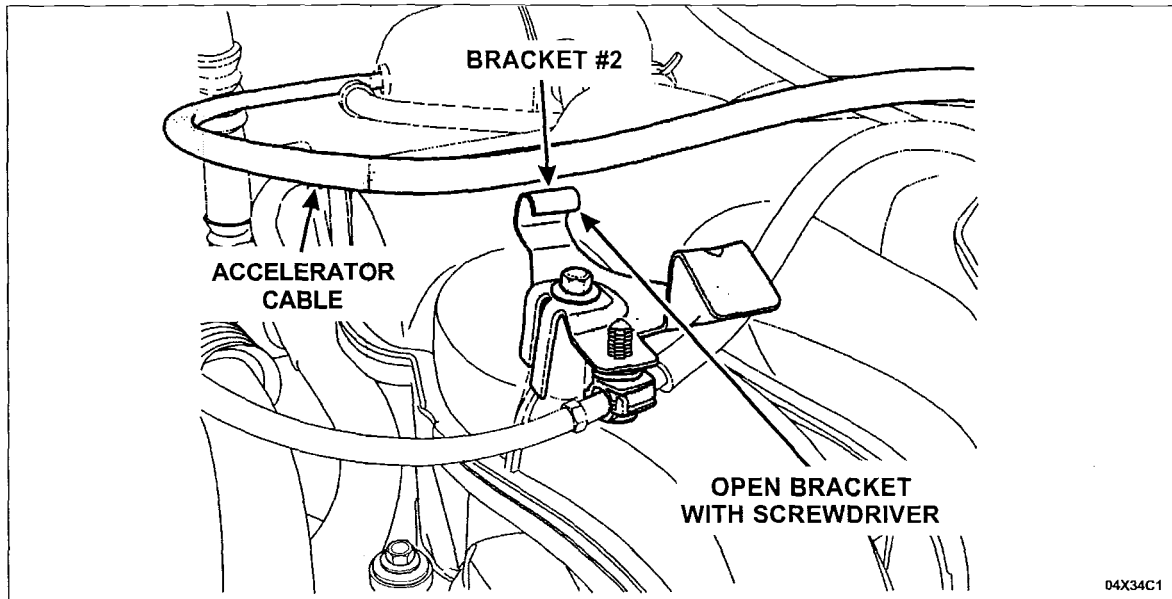

**FIGURE 2**
3. Disconnect the accelerator cable as follows: See Figure 2.